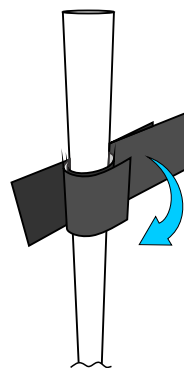

Fig 2.2C
3. Bring the opposite velcro tab around the rail (see Fig 2.2C).